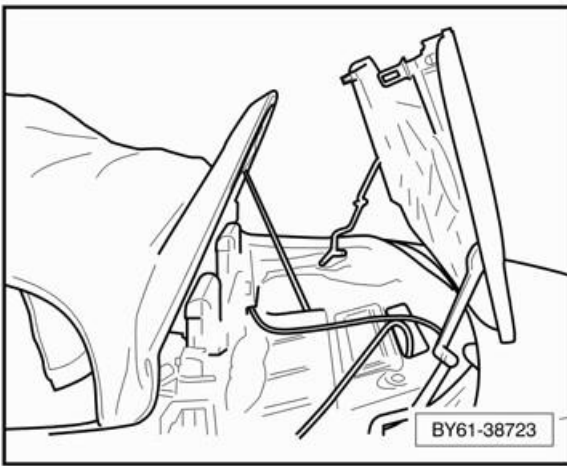

Figure 4
**Note:** To carry out the following procedures, the power operated roof assembly will have to be positioned partially open in a transient state. With the ignition on any transient roof position will only be maintained for 10 minutes after which a warning will sound prior to the roof assembly gradually folding down as the hydraulic pressure decays. Therefore consideration should be given to supporting the roof system during the following procedure (see Figure 4)
3. With the tonneau cover in the vertical position, support the tension bow with a suitable prop take care not to damage any trim (see Figure 4)